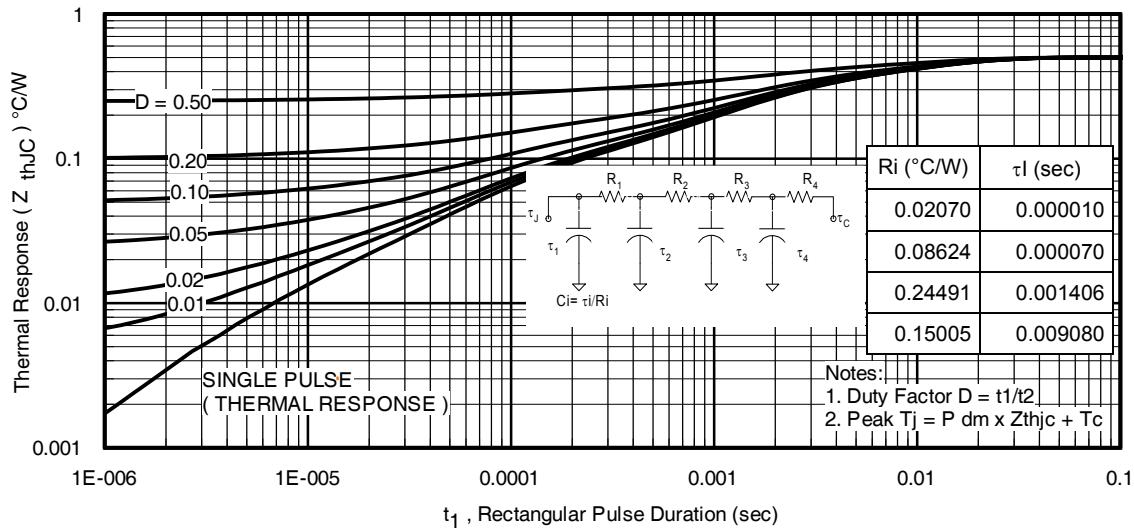

Fig 13. Maximum Effective Transient Thermal Impedance, Junction-to-Case
7. ΔT = Allowable rise in junction temperature, not to exceed $T_{j\max}$ (assumed as 25°C in Figure 13, 14).
$Z_{thJC}(D, t_{av})$ = Transient thermal resistance, see Figures 13)